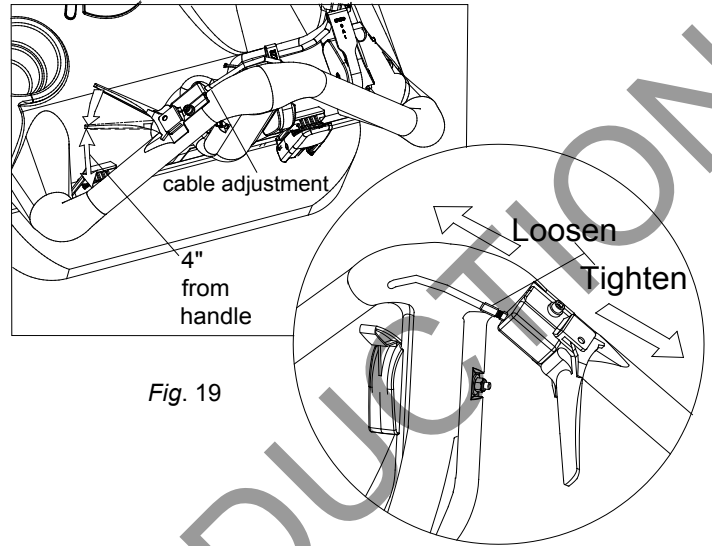

Fig. 19
3. Tighten or loosen cable adjuster nut next to the clutch lever until drive engages at 4" from handle. (See Fig. 19 next page)